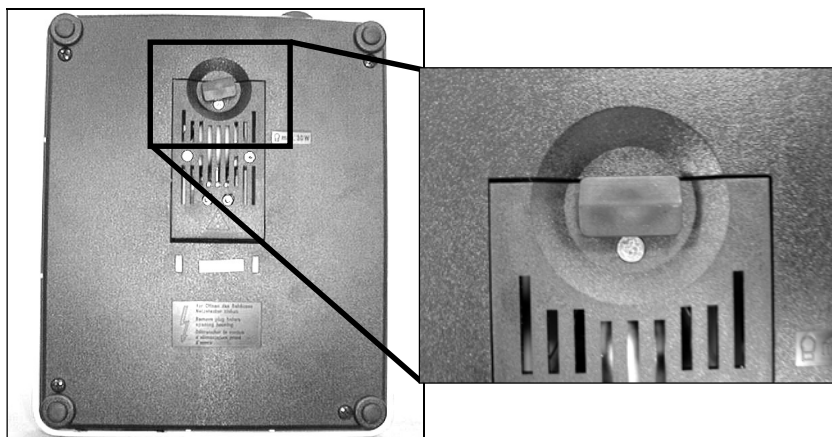

Fig. 52: Bottom of stand base with lamp holder locking knob.
- Open the lamp holder by turning the locking knob (Fig. 52).